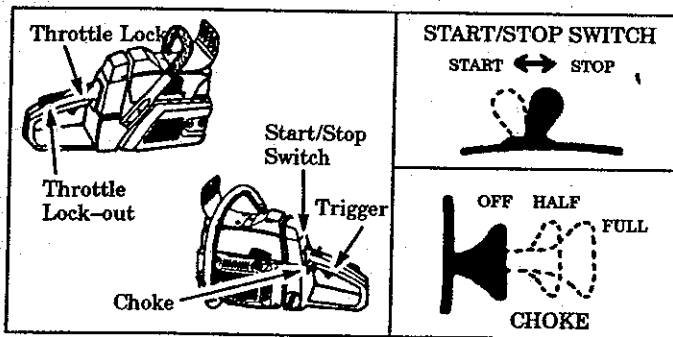

Figure 14
- b. Move Start/Stop Switch to the "Start" position. Figure 14.
- h. Stop the engine by moving the Start/Stop Switch to the "Stop" position. Figure 14.
- 1.) Pull choke lever to full choke. Figure 14.
- 2.) Pull starter rope quickly with your right hand until engine attempts to start, then push the choke lever to the half position. Figure 14.
- 4.) Allow the engine to run for approximately five seconds. Then, push the choke lever to the off position. Figure 14.
- 1.) Leave choke lever in off position. Figure 14 .
- 3.) Stop the engine by moving the Start/Stop Switch to the "Stop" position. Figure 14 .
- 1.) Pull the choke lever to full choke. Figure 14 .
- 3.) Push the choke lever to off. Figure 14 .